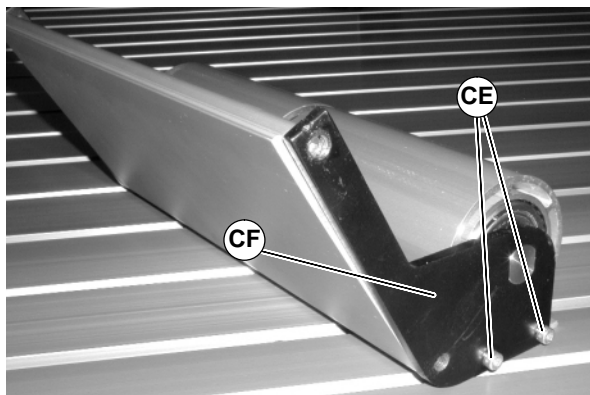

Figure 70
4. Remove screws (CE of Figure 70) and idler guide side plate (CF).